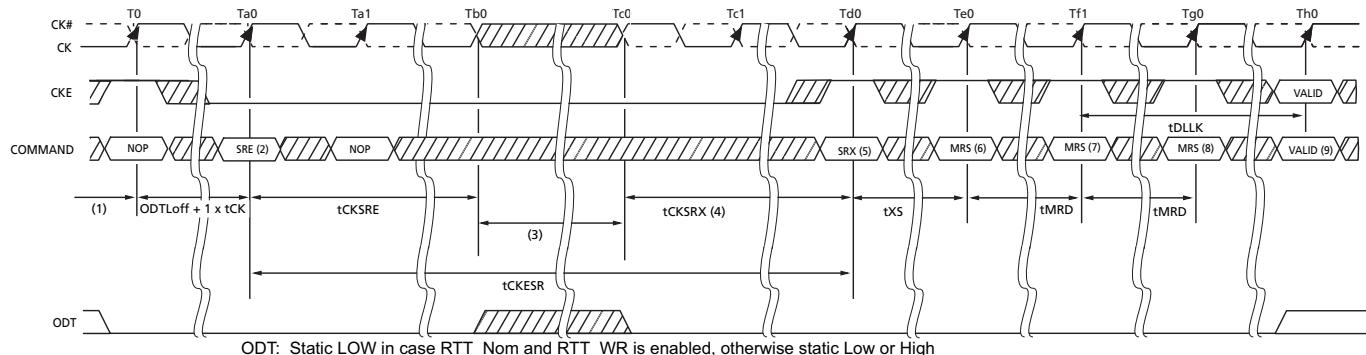

Figure 15 — DLL Switch Sequence from DLL Off to DLL On
2. Refer to Figure 15 for specific tWLO timing.